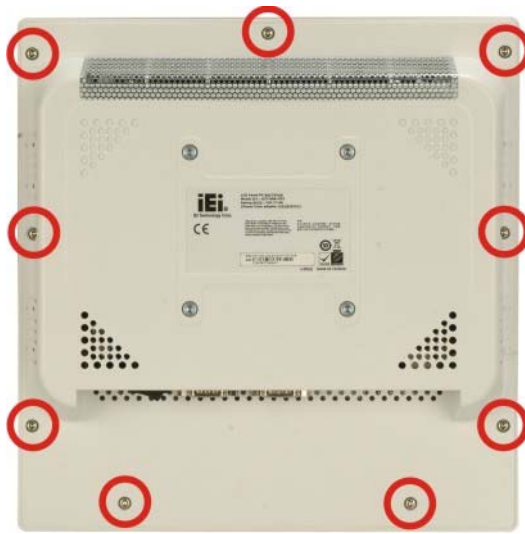

Figure 4-1: Rear Panel Retention Screws
Step 2: **Remove the rear panel.** Remove the nine retention screws (**Figure 4-1**) from the rear panel and lift the back cover off the ACT-08A-ATOM.
Step 2: **Remove the rear panel.** Remove the nine retention screws (**Figure 4-1**) from the rear panel and lift the rear panel off the ACT-08A-ATOM.